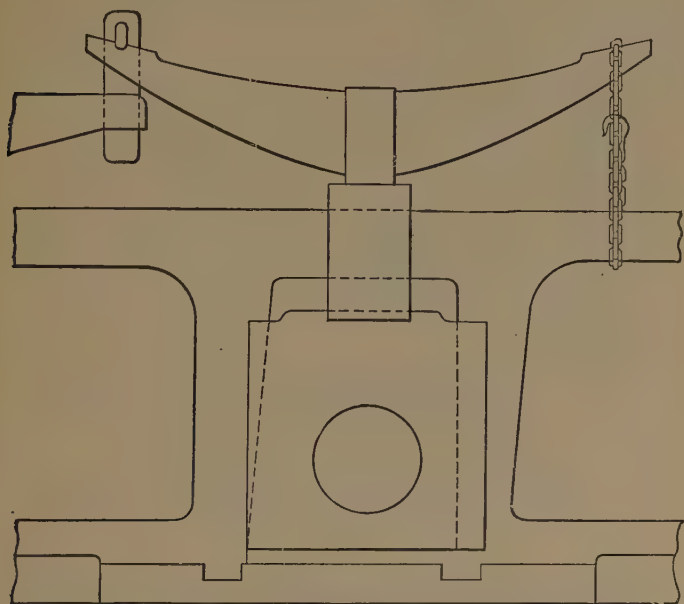

Fig. 415. Broken Spring Hanger.
A. A chain, if there is one handy. (Fig. 415.)